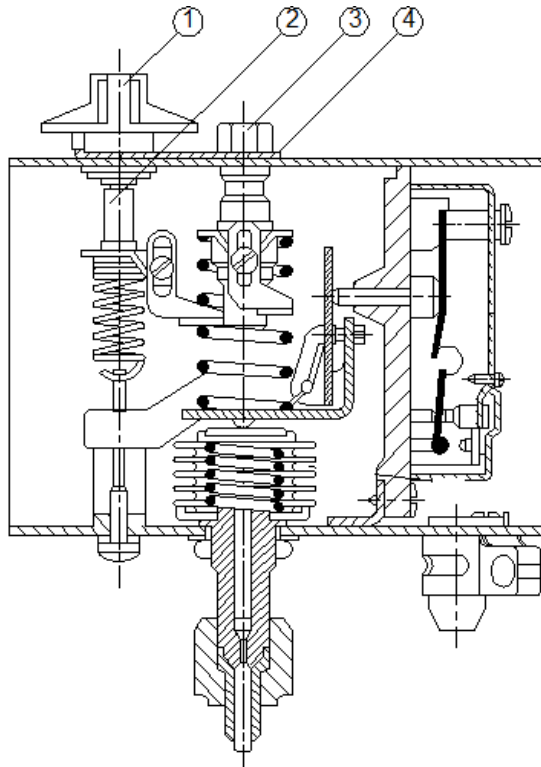

Fig Q7
- (i) the shaft coupling bolts; (1)
- (ii) the shaft bearings. (1)
- (d) State, with reasons, which of the effects stated in Q4(c) would cause most concern. (2)
5. Describe, with the aid of a sketch, a twin rotor screw type pump suitable for fuel oil duties detailing any protective devices that would be fitted to a pump of this type. (10)
- (a) sketch a cross section through a ram crosshead showing the trunion and tiller arm bearings and how clearances are accommodated; (6)
- (i) wear-down clearance; (1)
- (ii) jumping clearance; (1)
- (c) explain the consequences of EACH of the clearances stated in Q6(b) being reduced. (2)
7. With reference to Fig Q7, explain the purpose of the device and describe how it is set to operate. (10)